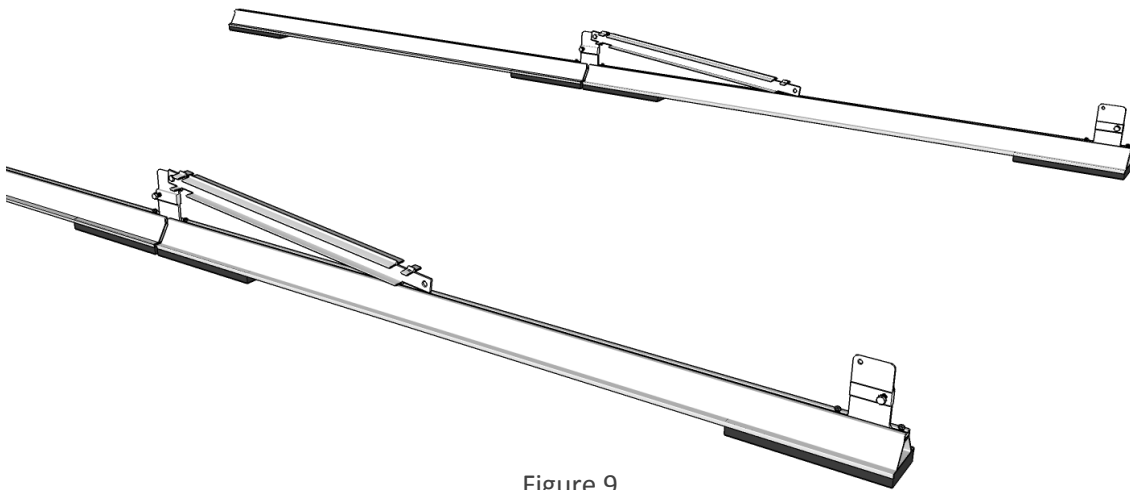

Figure 9
Step 6: Install Reflector Struts – Figure 9